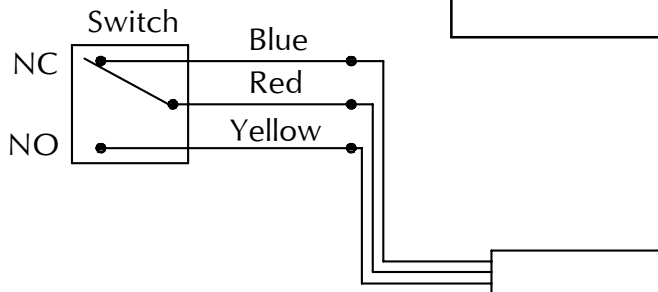

Figure 4-2
- 4.2. See LX switch wiring information (Figure 4-2) for switch configuration.